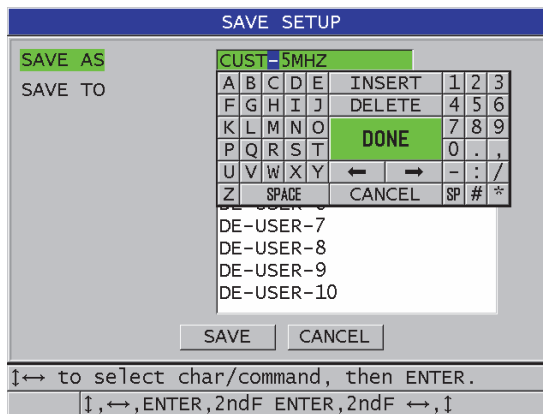

Figure 12-6 Saving the setup
- b) In the **SAVE SETUP** screen, enter the desired custom setup file name (see Figure 12-6 on page 238).